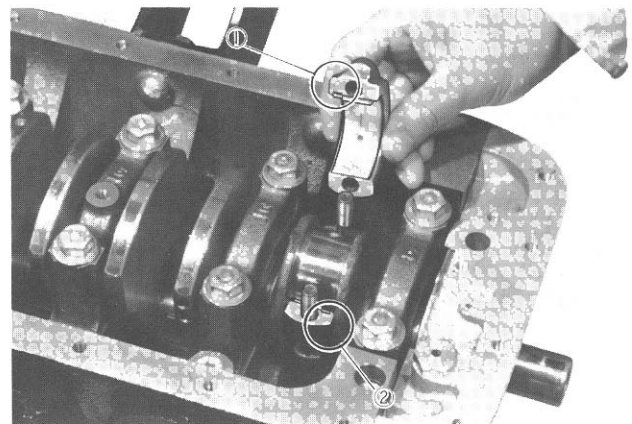
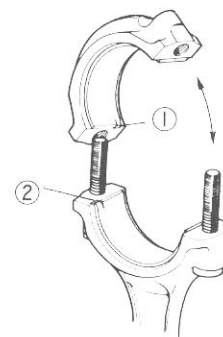

Fig. 3-111
Fig. 3-112
Two stoppers **① ②**, Fig. 3-112, determine the position of each big-end bearing cap relative to the big end. At the time of installing these caps, be sure to locate stopper **①** of cap in the direction of stopper **②**.
The two stoppers do not coincide in longitudinal direction: the coincidence is meant in the direction shown in Figs. 3-111 and Fig. 3-112.